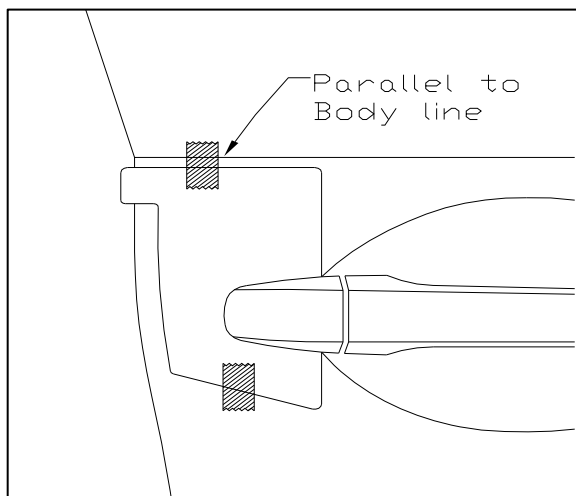

Fig. 1-12
- (l) Select front door template and fit notch around door handle. Adjust as needed to ensure it is parallel to body line directly above the template. If needed, tape into place using painter’s masking tape. (Fig 1-12)